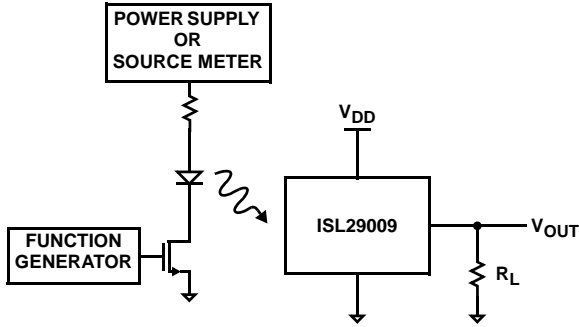

FIGURE 1. TEST CIRCUIT FOR RISE/FALL TIME MEASUREMENT
1. Switching time measurement is based on Figures 1 and 2.